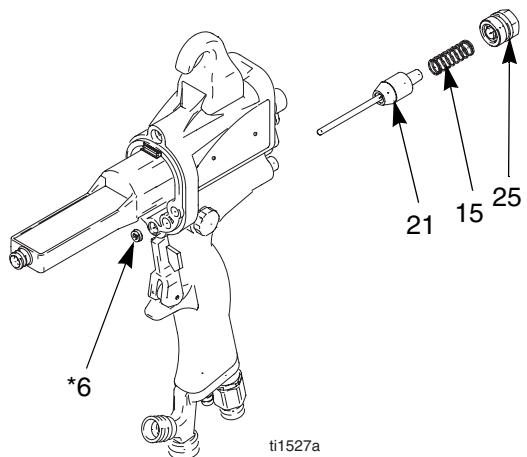

Fig. 20. Air Valve
3. Remove the air valve cap (25) from the handle (17). Remove the spring (15). See FIG. 20.
4. Remove the air valve (21) with a pliers. Inspect the the rubber sealing surface and replace the air valve if damaged.
5. Inspect the u-cup (6*). Do not remove the u-cup unless damaged. If removed, install the new one with its lips facing into the gun handle (17).
6. Install the air valve (21) and spring (15) into the gun handle (17).
7. Install the air valve cap (25). Torque to 15-25 in-lb (1.7-2.8 N•m).